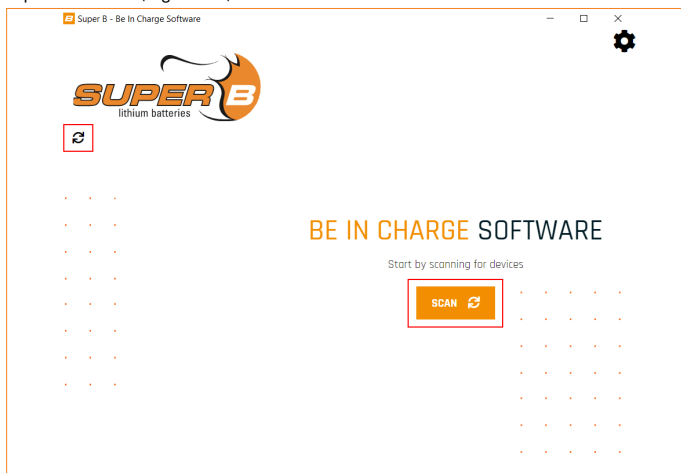

Figure 16. 'Scan' for devices
2. Select the 'Scan' button to start scanning for devices. You can also select the scan/refresh icon in the top-left corner (Figure 16).